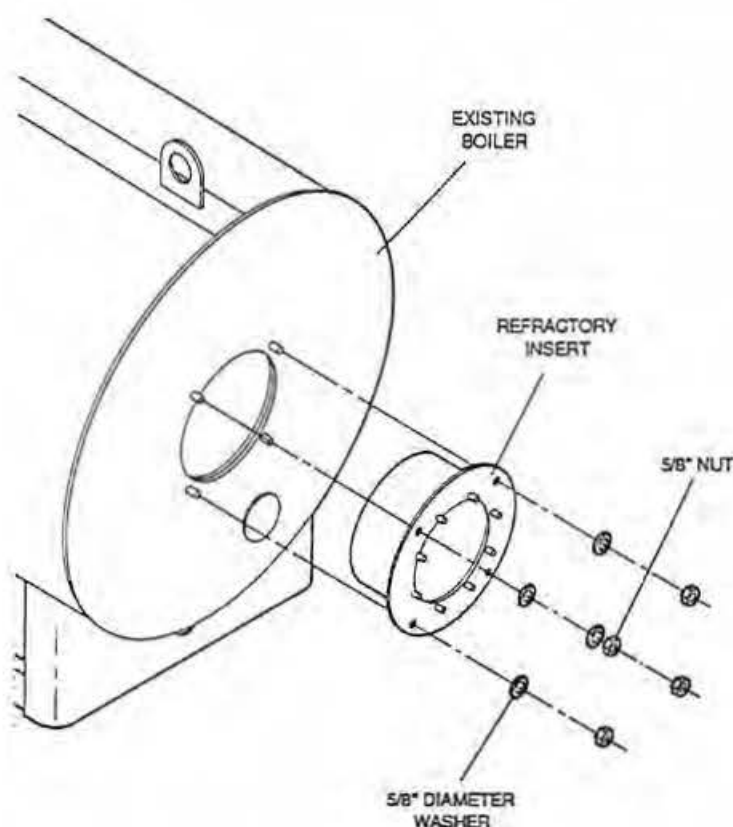

Figure 2. Refractory Insert
6. Remove the refractory cylinder into which your old burner was inserted. Figure 2 "Refractory Insert."